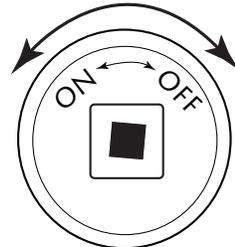

Fig. 8. Key Valve Face
**CAUTION:** It is imperative the **“open side”** of all hoods covering the injectors/jets are installed facing downward. Because the hoods can be removed or turned, the orientation is extremely important to protect the injector or jets from dust, dirt or rain. See detail in Fig. 8.
1. Insert key into shut-off valve and secure into square end (see Figs 8 & 9).